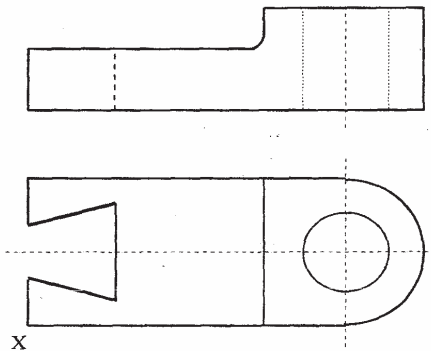

Figure 1
- 10 Figure 1 shows two orthographic views of a machined block drawn in first angle projection.